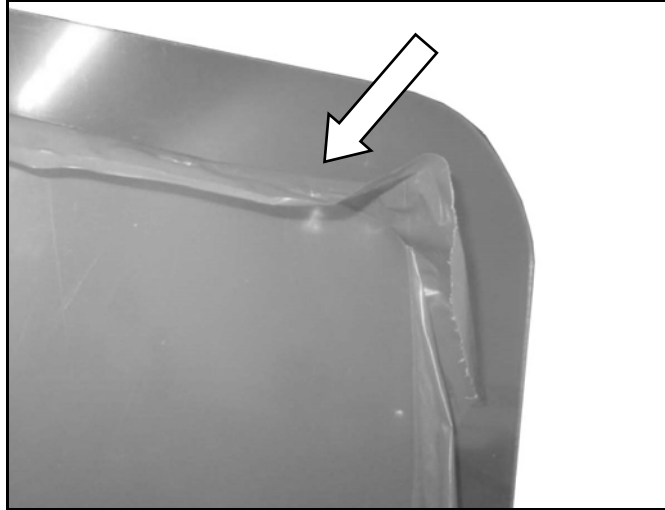

FIGURE 3-3. PULL FILM FROM EDGE OF LINER APPROXIMATELY 2"
- 2) Refer to **Figure 3-3**. Pull film back from edge of other side of window as needed. Approximately 2" is required of the window liner.